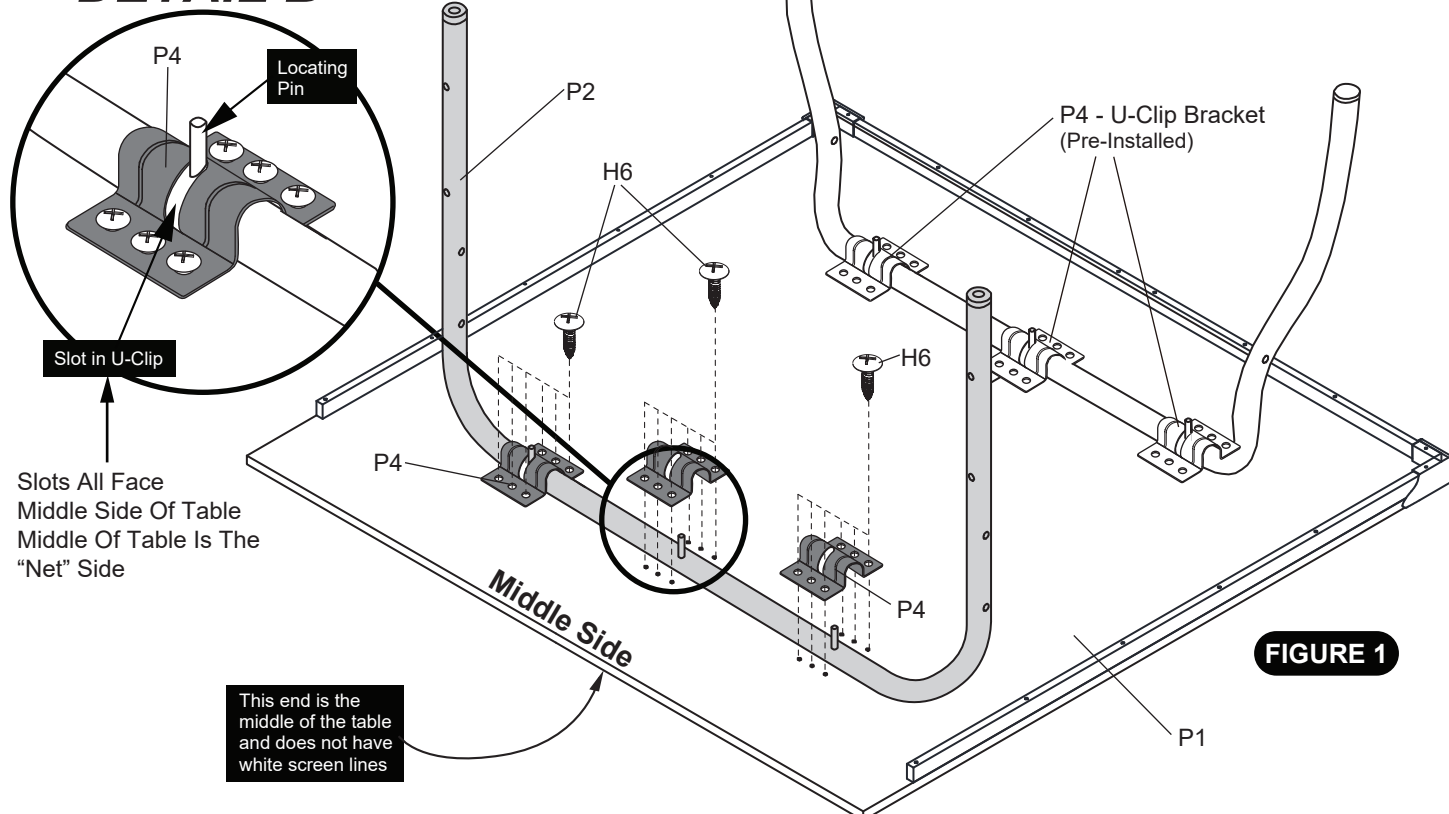

FIGURE 1
WHEN ASSEMBLING TABLE, IT IS EXTREMELY IMPORTANT THAT THE P4 U-CLIPS BRACKET BE TURNED AS SHOWN IN FIGURE 1 & DETAIL A.
1. BE SURE THAT SLOT IN THE THREE P4 U-CLIP BRACKETS ALL FACE THE SAME DIRECTION (TOWARD THE MIDDLE OF THE TABLE) AS SHOWN IN FIGURE 1 & DETAIL A.
3. BE SURE THE THREE P4 U-CLIP BRACKETS ATTACH TO THE SMALL LOCATING PIN ON P2 U-SUPPORT AS SHOWN IN FIGURE 1 & DETAIL B.